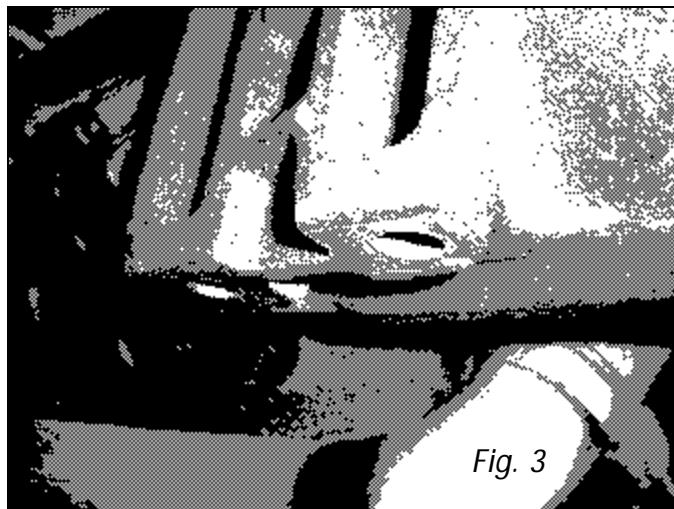

Fig. 3
6. Install the new torque arm onto the rear end with the factory OE bolts. (Use thread locking compound on threads). Do not torque at this time!). Due to production tolerances, it may be necessary to file or grind the lower rear corner of the differential casting to allow the differential bracket to sit flush against the housing (Fig. 3).